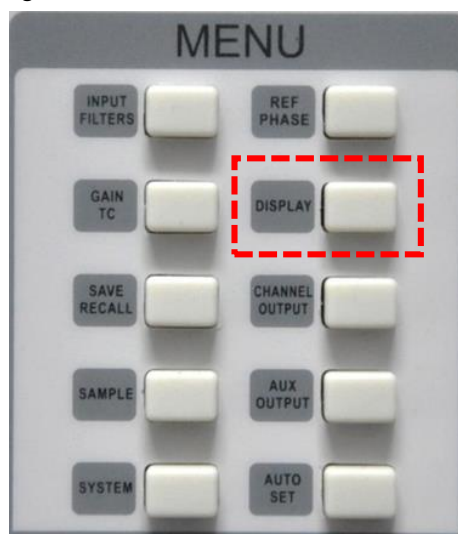

Fig.91 [DISPLAY] MENU
6. The main interface data bar displays the value of <R>, <X>, <Y> and <θ>. Press the [DISPLAY] to enter the submenu, as is shown in Fig 91.